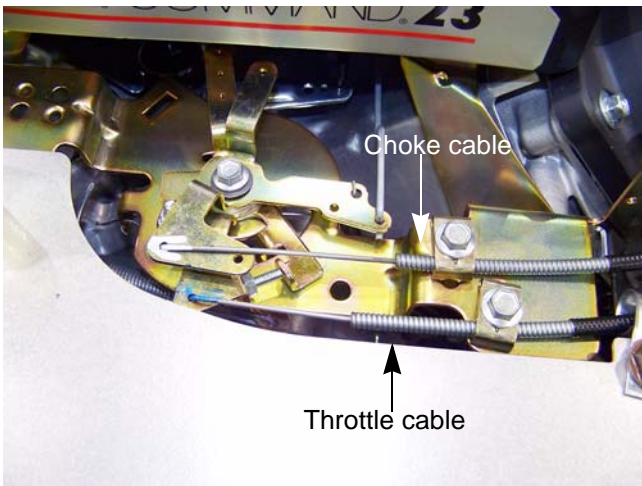

Figure 4.28
5. Disconnect the throttle cable from the control panel on the engine. See Figure 4.28.